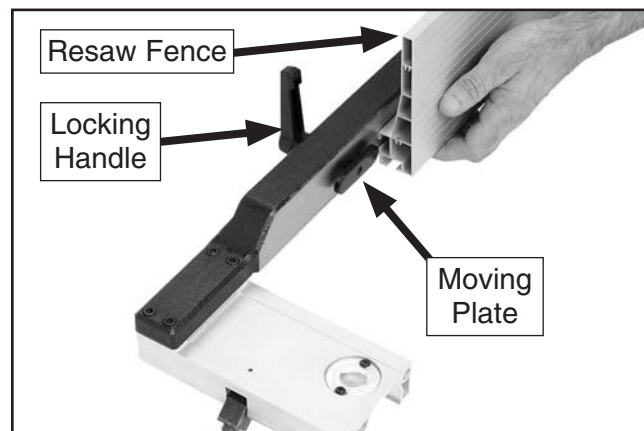

Figure 33. Attaching resaw fence.
1. Place the 8mm flat washer on the locking handle (see **Figure 33**), slide it through the hole in the fence, then thread the moving plate onto the end of the locking handle threads.
2. Slide the resaw fence over the moving plate, as shown in **Figure 33**, so the moving plate fits inside the channel of the resaw fence, then tighten the locking handle.